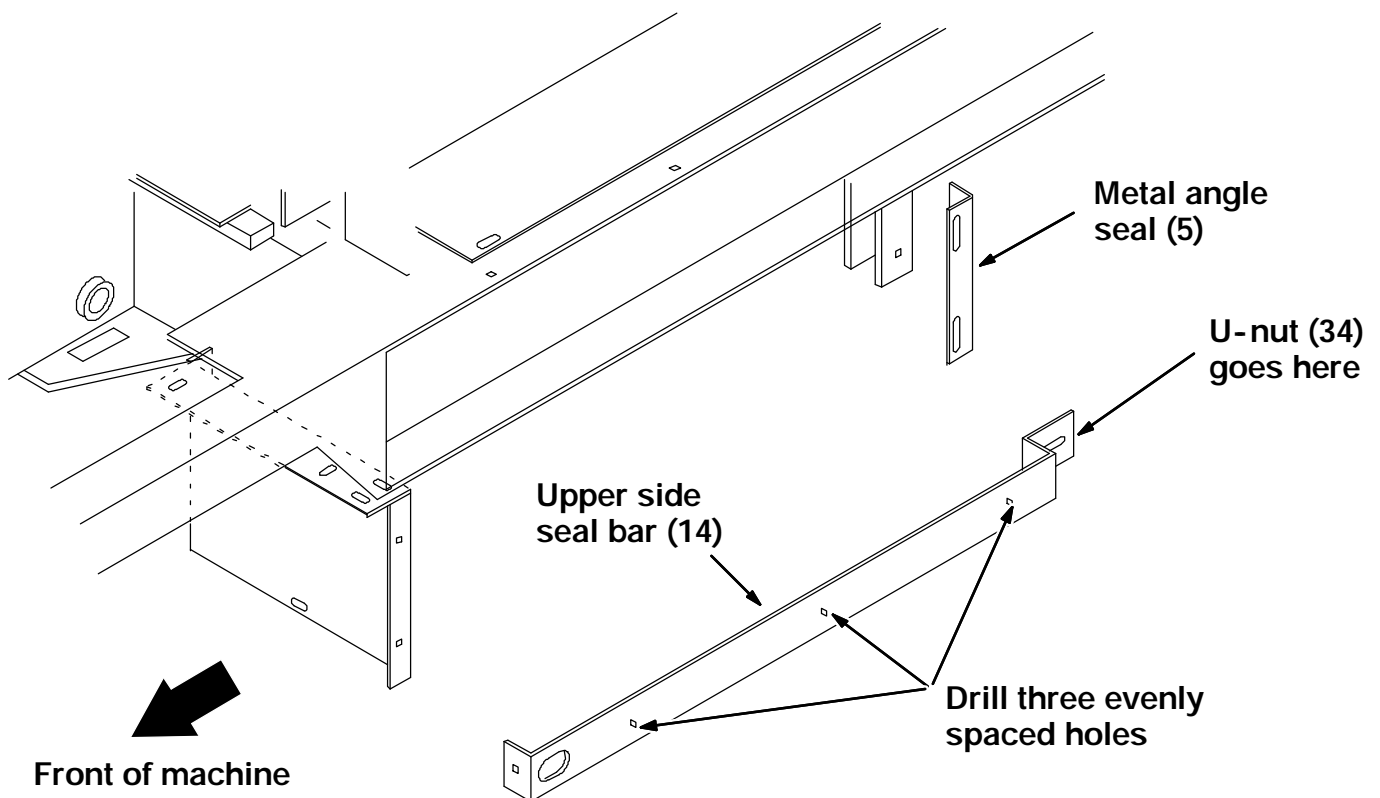

FIG. 8 - Assemble Side Brush Brackets
13. The brush shroud support brackets (15) are not used on the left hand side. (Refer to Fig. 8)
15. Place the dust control poly side shroud (9), and side brush skirt (7) flat against the left side of the machine. Use one side skirt retainer (22) on each end. Leave the hardware loose for now. (Refer to Fig. 8)
18. Drill three evenly spaced holes through the top of the dust control poly side shroud (9) into the LH upper side seal bar (14). Use three hex screws, fender washers, and nyloc nuts in these holes. Tighten the mounting hardware. (Refer to Fig. 8)